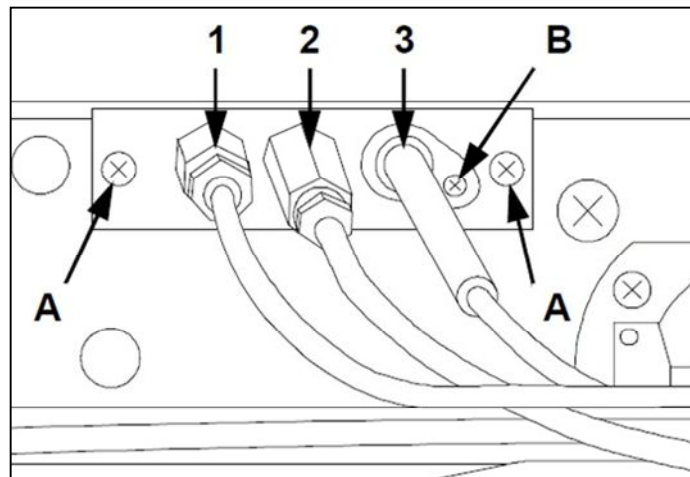

FIG.18
- Unscrew the thermocouple with a special fixed key (FIG.18-Ref.1);
- Unscrew the 2 SUPPORT screws (FIG.18-Ref.A);
- Reassemble the new pilot (FIG.18-Ref.2) according to the above-mentioned phases.
- Remove the spark plug by unscrewing the SCREW (FIG.18-Ref.B);
- Refit the new SPARK PLUG (FIG.18-Ref.3) following the above steps.